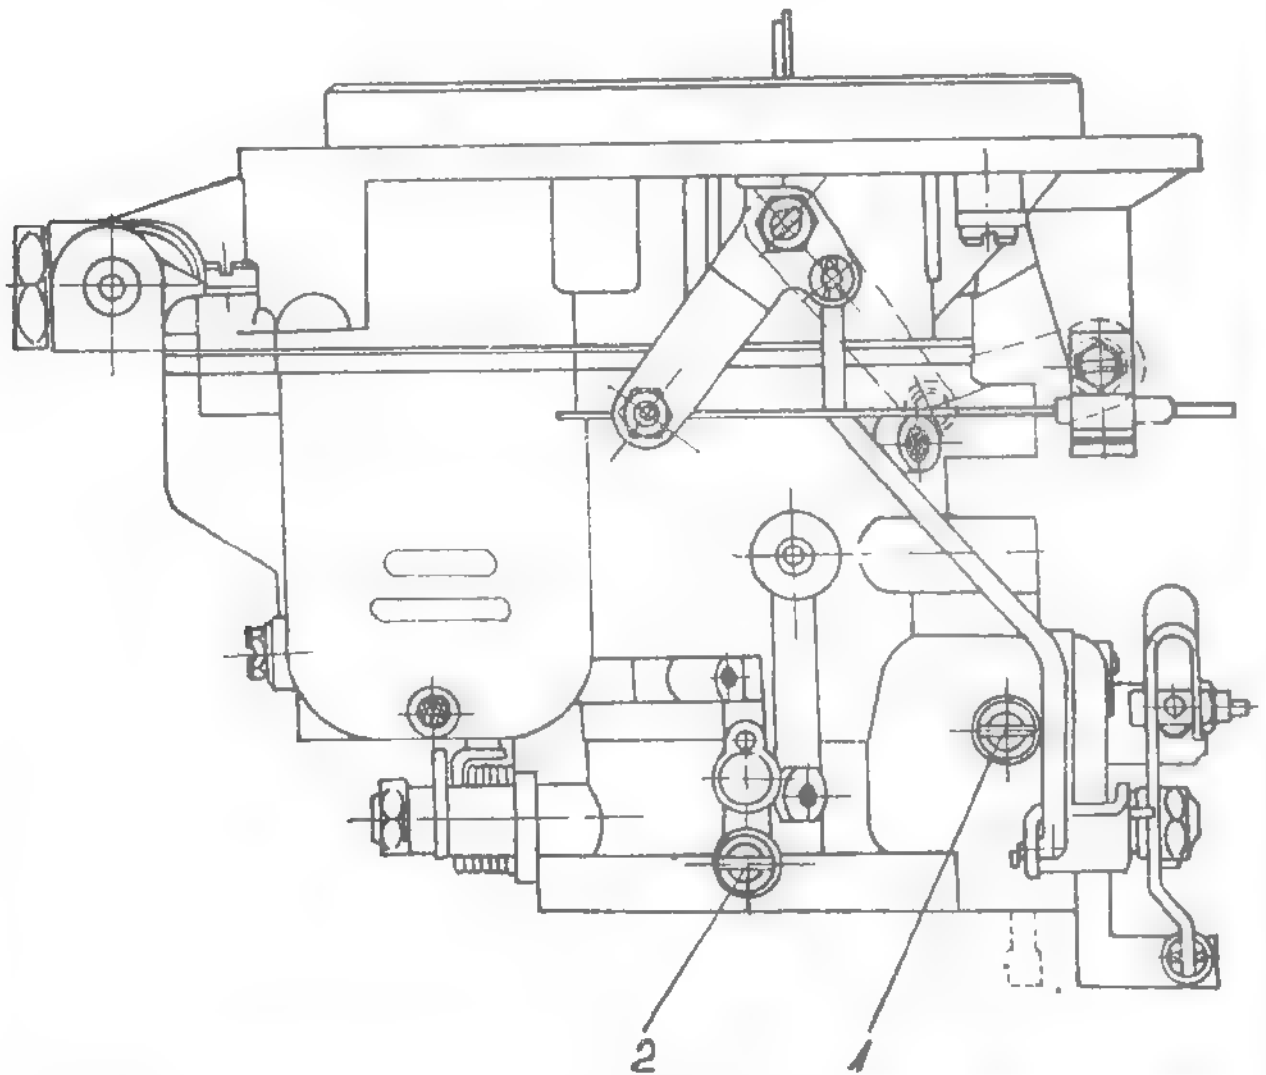

Fig. 2.25. LOCATION ON CARBURETTOR OF IDLE SPEED ADJUSTING SCREWS.
- Operating the butterfly adjusting screw (1) (see fig. 2.25), adjust engine speed at about 750 r.p.m.
- Screw completely the R.H. idle mixture adjusting screw (2) and then unscrew it 1- 25 turns.
- After that, operate again the butterfly adjusting screw (1), untill the engine speed of 750 r.p.m. is obtained.